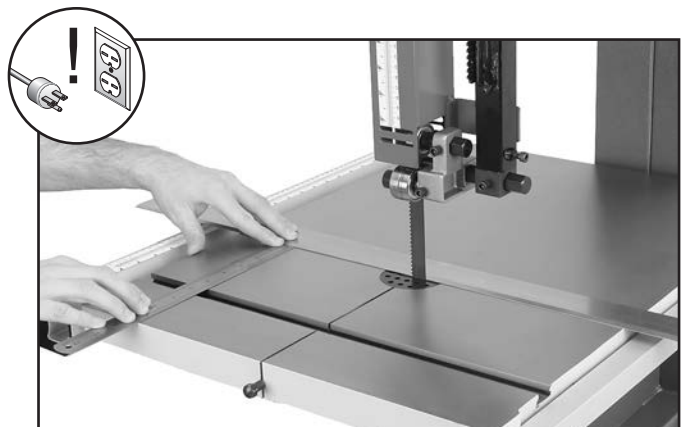

Figure 56. Measuring for miter slot to be parallel with blade.
- Use a fine ruler to gauge the distance between the straightedge and the miter slot. The distance you measure should be the same at the front and the back of the table (see **Figure 56**).